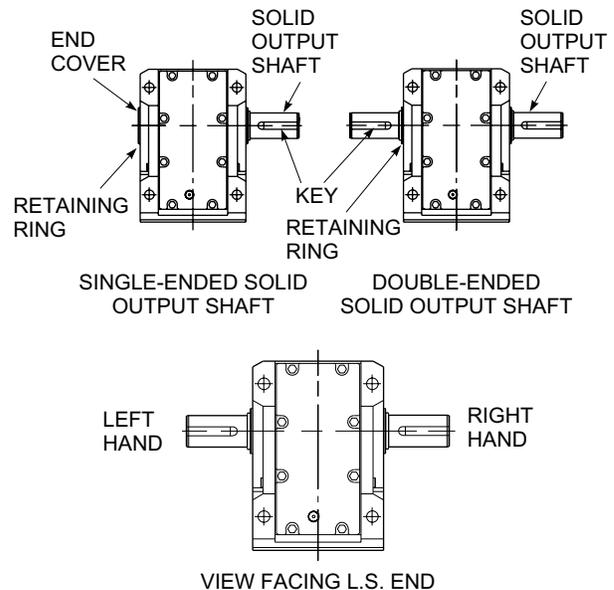

Figure 7
4. Slide solid output shaft into bore of low speed shaft, aligning key with keyway in bore of low speed shaft. Note: For single extension solid output shaft (viewing from low speed end of drive), confirm right- or left-hand extension. Refer to Figure 7.